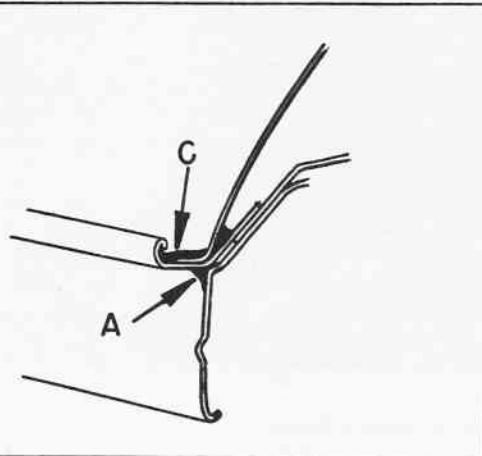

Fig. 10 Cross-Section at "B"->"B" Figure 9
5. Check joint at point "C" (Fig. 10) and reseal if necessary.